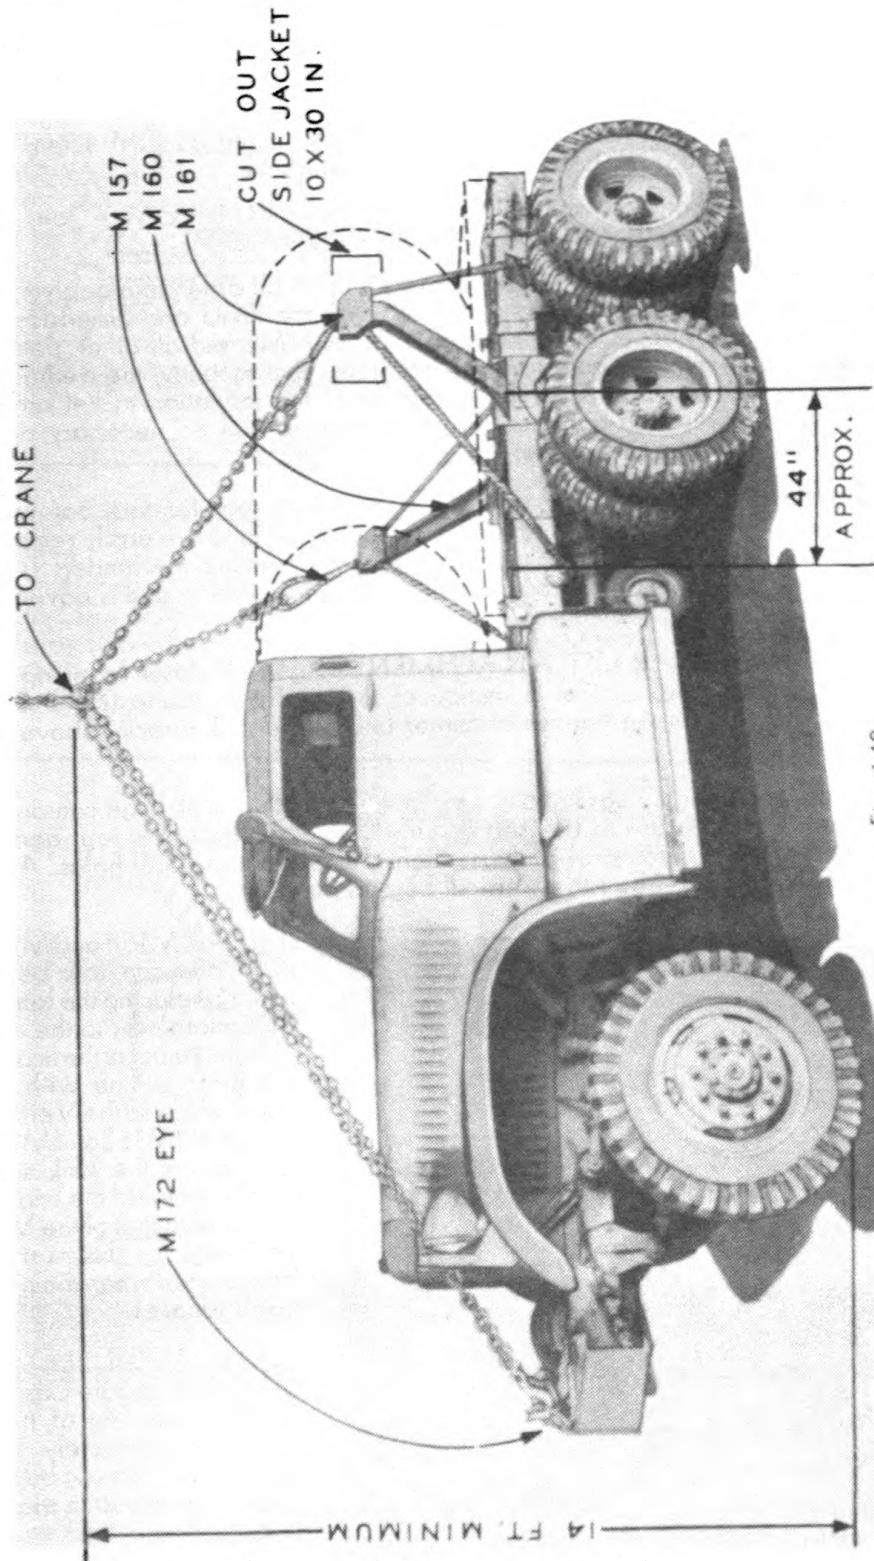

Fig. 148
**INSTALLATION OF REAR LIFT ATTACHMENT:** (Fig. 148) After removing the items previously mentioned, cut out a section of the insulation jacket (RMU only) approximately 10"x30" on the horizontal center line of the tank directly above the truck bogey.
The most convenient method of attaching the crane hook is shown in (Fig. 148). There should be a minimum of 14 feet from the ground to the point where the crane hook is fastened to the lifting chains with the hook being slightly behind the truck cab; however, various other methods may be substituted depending upon the hoisting equipment available at the loading dock.